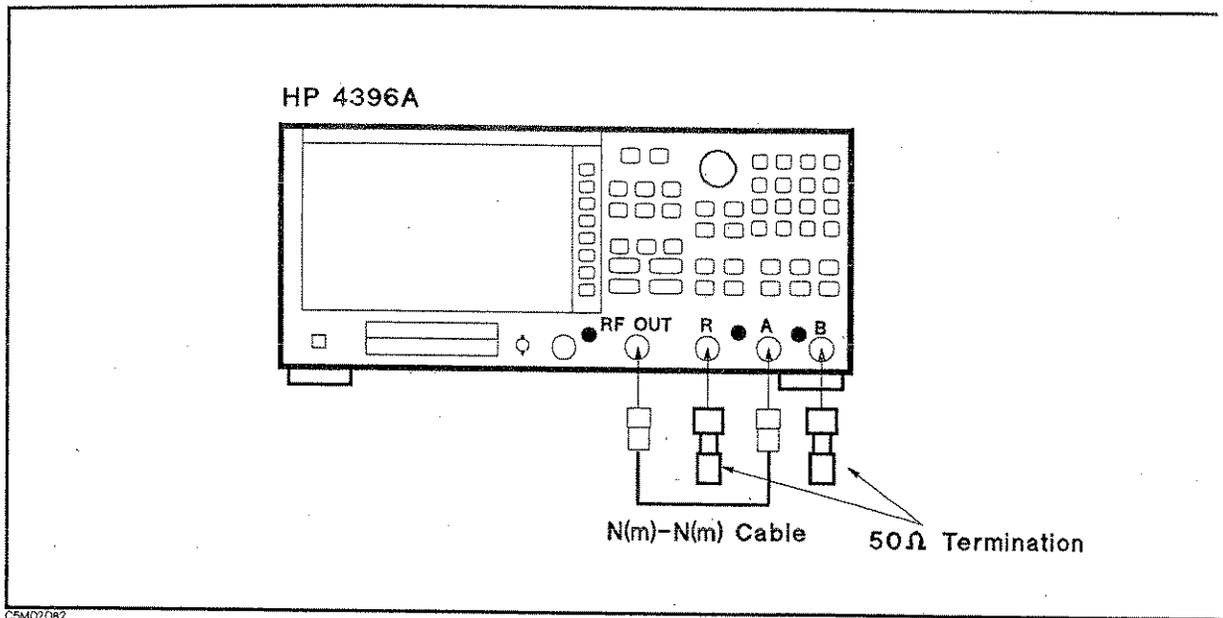

Figure 2-8. Input Crosstalk Test Setup 2
b. Connect the test equipment as shown in Figure 2-8.